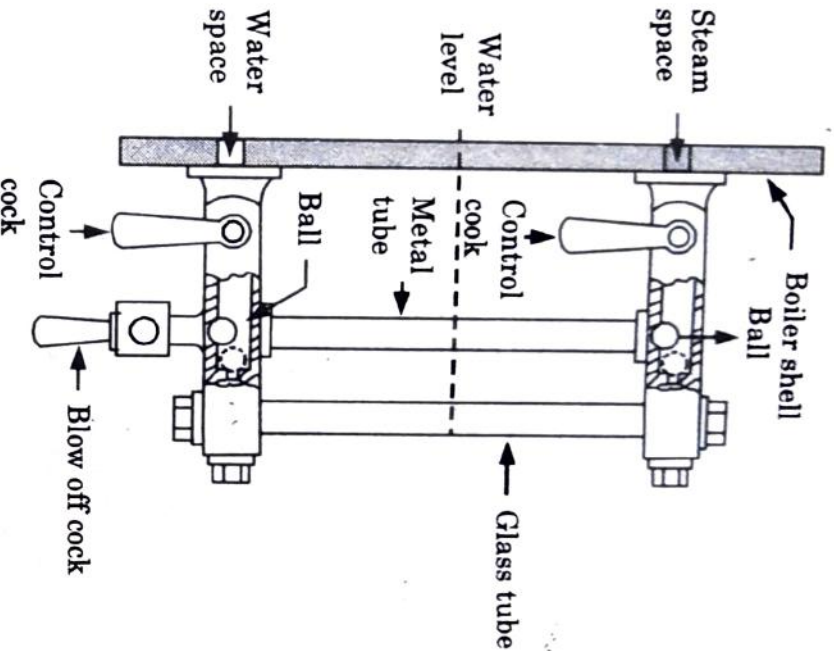

Fig. 3.5.1. Water level indicator.
2. General arrangement of water level indicator is shown in Fig. 3.5.1.